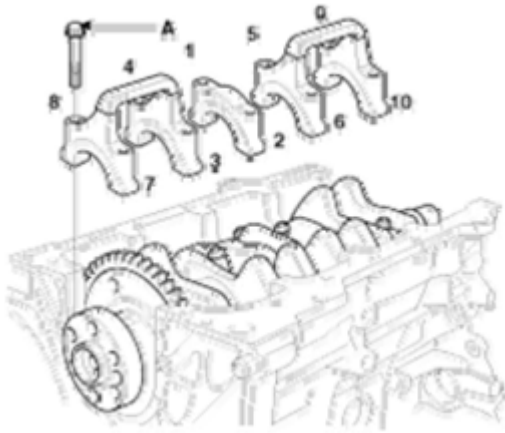

Fig. 36: Identifying Tightening Sequence Of Bearing Cap Bolts
2. Install and uniformly tighten the 10 bearing cap bolts (A), in several passes, in the sequence shown in **Fig. 36**.